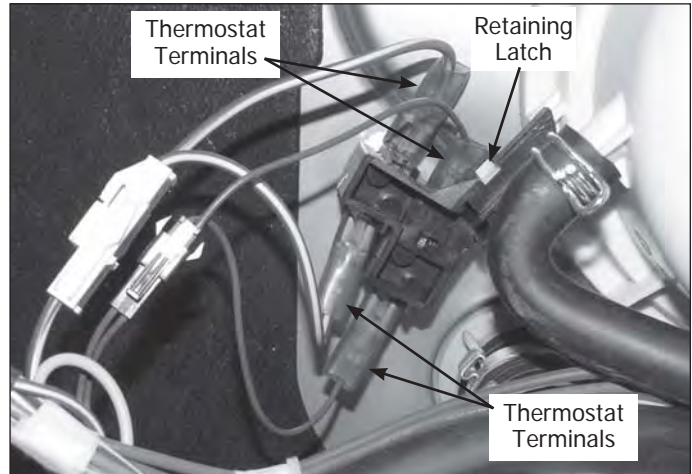

Figure 4-25.
5. Remove thermistor block from underside of sump. The mount for the safety thermostat and thermistor may need to be broken off the sump, as the retaining latch on the back side of mount is not accessible. New thermostats will come with a new mount. (See Figure 4-25)